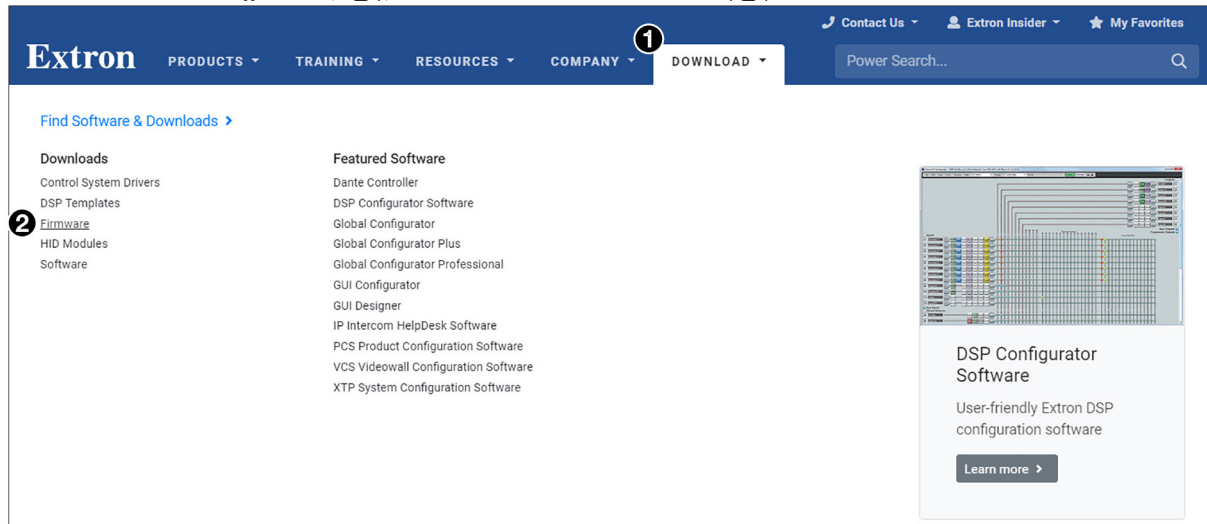

Figure 52. Downloading Firmware
1. On the Extron website, hover the mouse pointer over the **Download** tab (see figure 52, ①), then click the **Firmware** link (②) in the Downloads column.